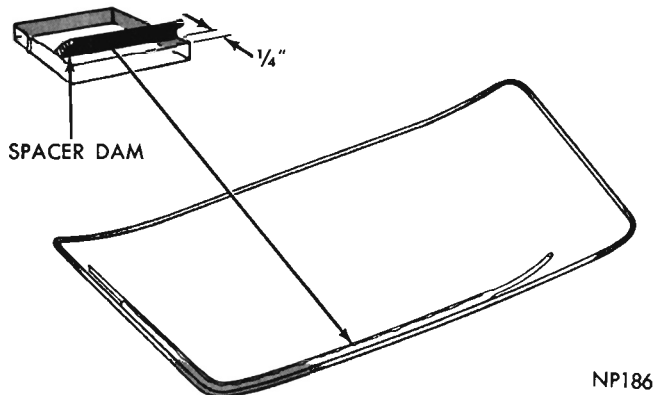

Fig. 2 Spacer Dam Installation
(1) Inspect moulding retaining clips. Remove and straighten clips bent more than 1/32 inch away from the body panel. Use self-sealing screw-on type clips when necessary to replace. All clips must be attached tightly.
(2) Inspect rubber spacers in lower trough when replacement of spacers is required, make certain they are positioned in the areas removed from.
(3) Install spacer dam 1/4 inch from edge and positioned so it leans toward edge on glass inner surface (Fig. 2).
(4) Attach suction cups to glass outer surface and position glass in opening.
(5) Inspect relationship of glass to fence completely around opening. The spacer dam should fold under and create a cushion for the glass to rest on. The glass to body fence overlap (0.30 inch minimum) should be equal across the top and sides. Use waterproof shims under spacers to